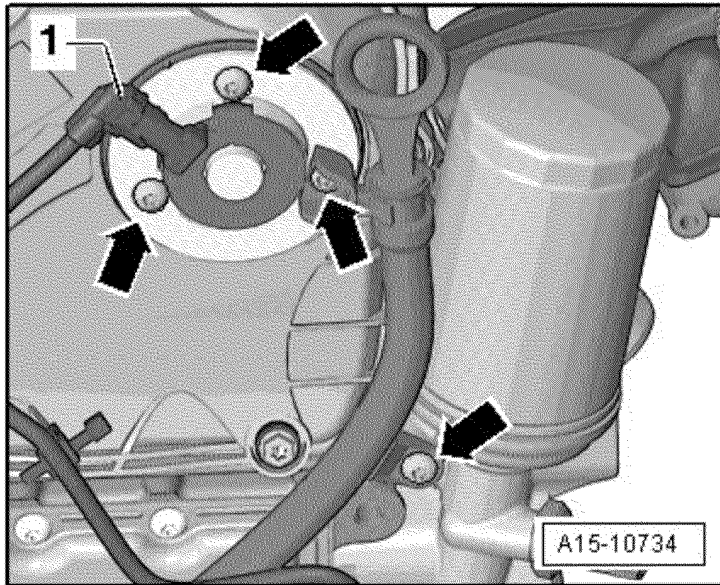

Figure 2. (1) Camshaft control valve.
2. Detach connector from camshaft control valve (Figure 2, 1)
3. Remove bolts (4 total) (Figure 2, arrows) and detach camshaft control valve.